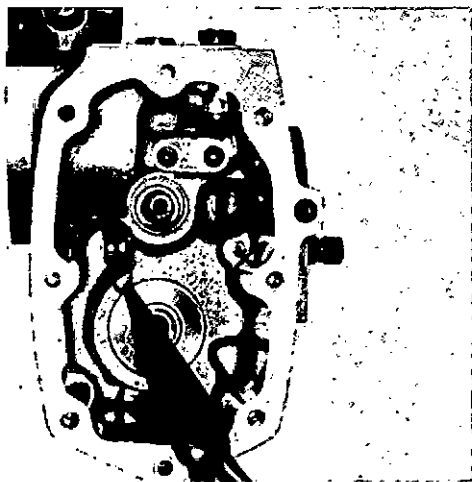

Fig. 1-4, (F5299). Remove the retaining ring from the throttle shaft.
1. Remove the retaining ring from the inside of the housing, Fig. 1-4. Remove the drive screws holding the cover plate. Pull the throttle assembly from the housing. Remove the O-ring and discard.